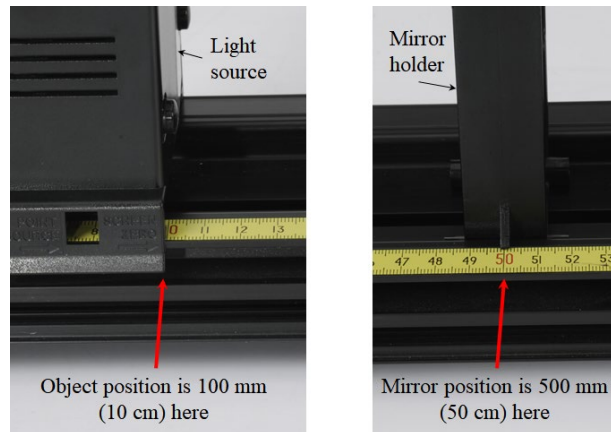

Figure 8: Measuring Object Distance
1. As shown in Figure 8, place the light source and concave mirror on the optics bench, about 400 mm apart. The crossed-arrow target shape on the light source should face toward the mirror, and the concave surface of the mirror should face toward the light source, as before.
2. Note the object position and mirror position. See Figure 8. Measure the distance between these position indicators, and record this as the object distance.